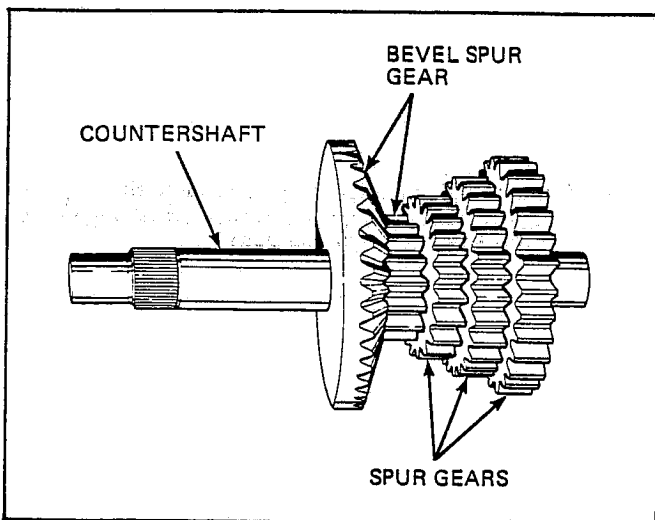

Figure 2-24
7. Remove bevel spur gear combination and spur gears from countershaft; these gears spline to countershaft. See Figure 2-24.